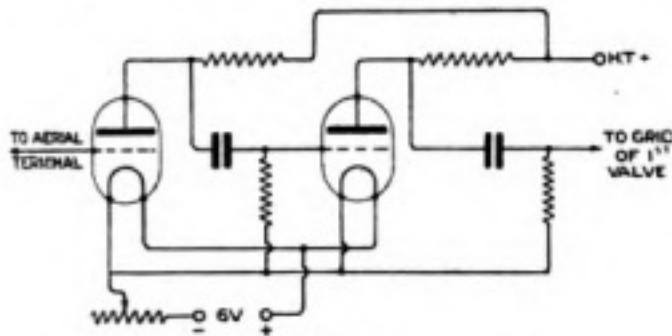

Fig. 5.
For circuit see Fig. 5, page 92, April 15th issue, and for the dimensions of an intervalve transformer, see issue of May 28th, 1921, page 152. A note magnifier, of course, considerably increases the strength of signals and your "V 24" valve should be quite suitable for use in the amplifying circuit.
(1) The T.F. receiver is small and compact, and there is not room for additional apparatus on panel. It is either necessary to do away with exciting L.F. valves or have another panel. The diagram of an additional panel is shown (Fig. 5). (2) Anode resistances 50,000 ohms and condensers 0.0005 mfd. (3) Yes.